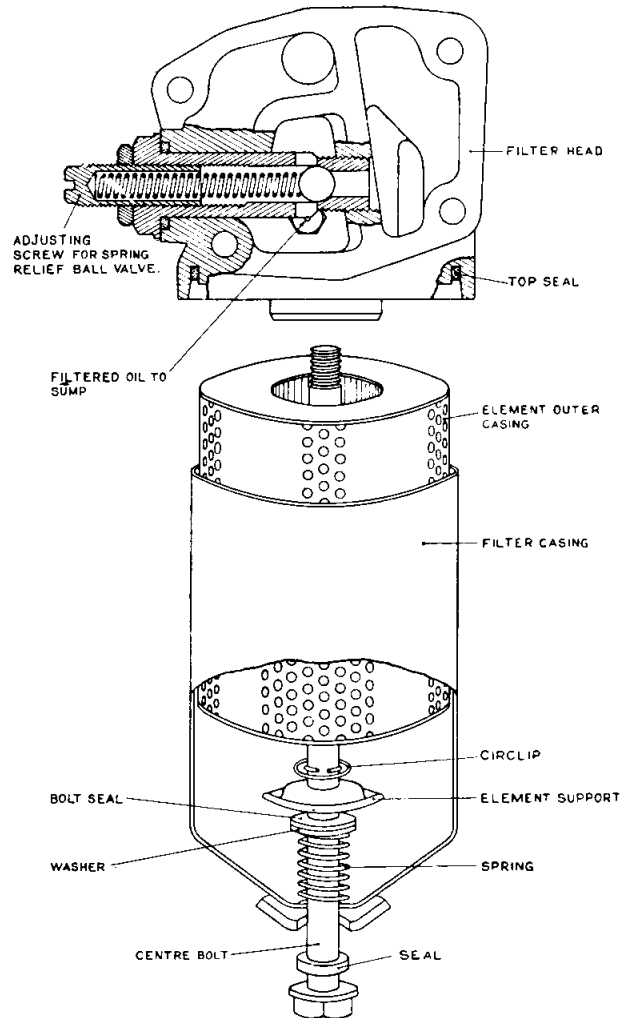

Fig. 29
18. THE "PUROLATOR MICRONIC" OIL FILTER—TYPE 17F. 5102 (Fig. 29)